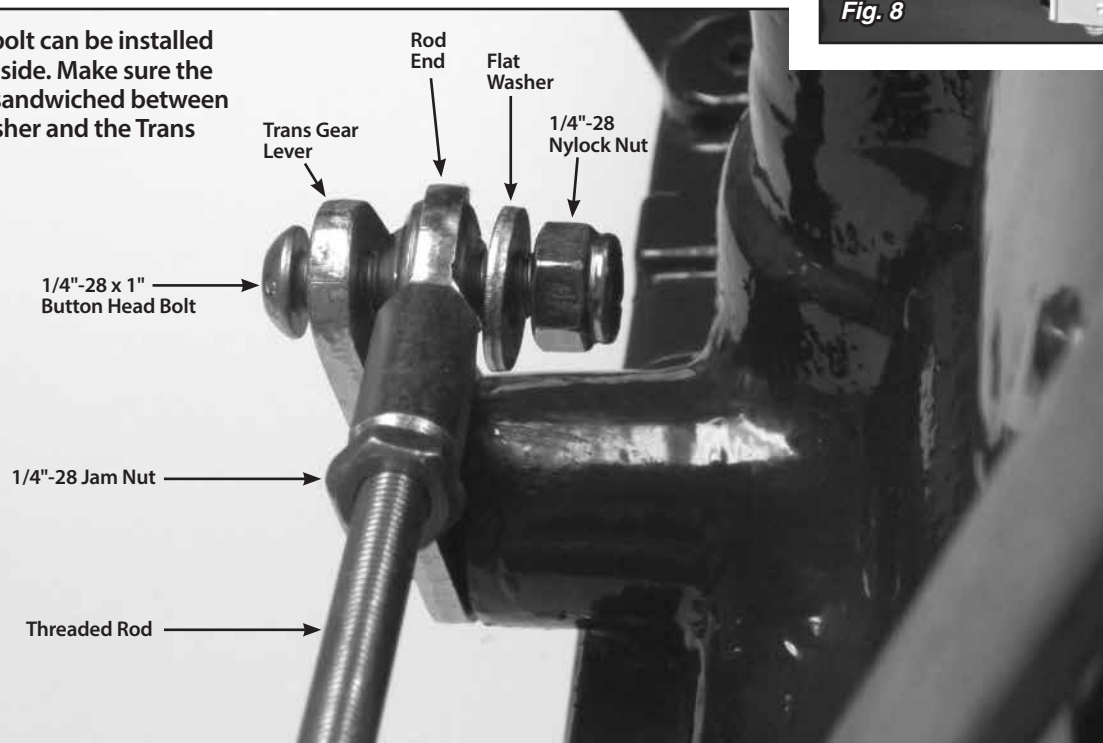

Fig. 9
Step 14: Install a rod end onto each end of the threaded rod. Attach the threaded rod assembly to the **inside** of the trans gear lever and to the **outside** of the quad lever using the 1/4"-28 x 1" button head bolts, flat washers, and nylock nuts as shown in **Fig. 9** and **Fig. 10**. The button head bolts can be installed from either direction, but make sure the rod end is sandwiched between the flat washer and the quad lever or trans gear lever.